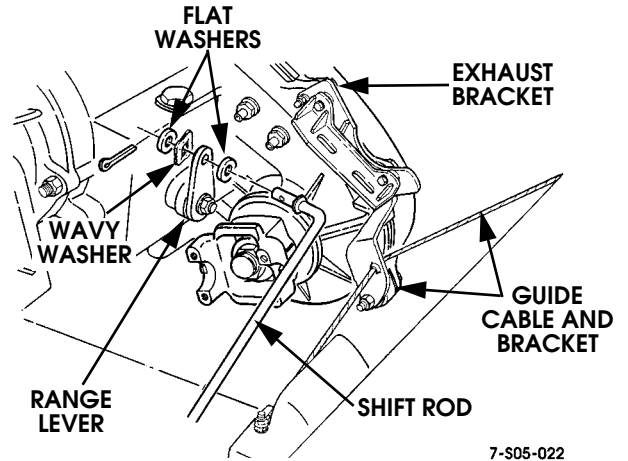

Figure 5-82: Shift Rod Attachment
7. Disconnect shift rod at range lever (Figure 5-82).
8. Remove guide cable and bracket (Figure 5-82).
5. Connect shift rod to range lever with washer and cotter pin (Figure 5-82).